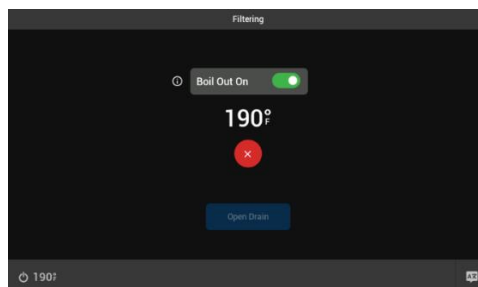
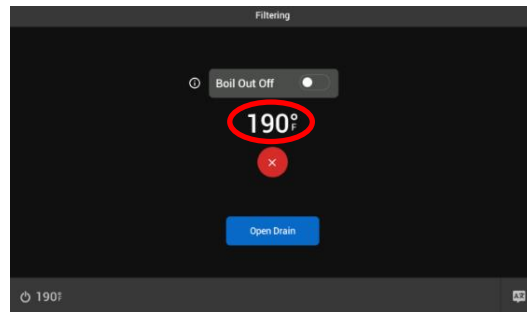

Figure 73 - Boil Out ON Filtering Screen
Figure 74 - Boil Out OFF Screen
- Slide the **Boil Out Off** to the **Boil Out On** position **Figure 73**
- Slide the **Boil Out On** in **Figure 73** to **Boil Out Off** in **Figure 74**, to turn off the *boil out* when water has reached the desired temperature (shown in the middle of the screen)